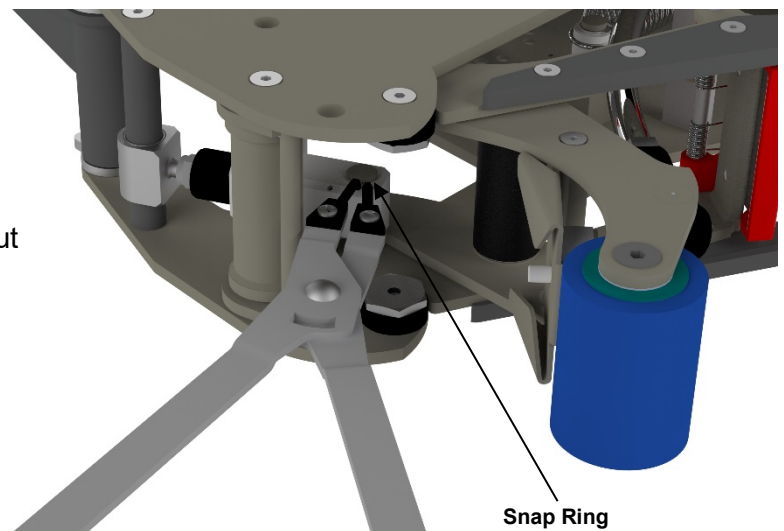

Figure 10-10
5. Reinsert retaining ring to the grooves. Should the 10 mm retaining ring get damaged replace it with a new one. **(Figure 10-10.)** Calibrate the spring pressure with the M6 nylon lock nut as described earlier.